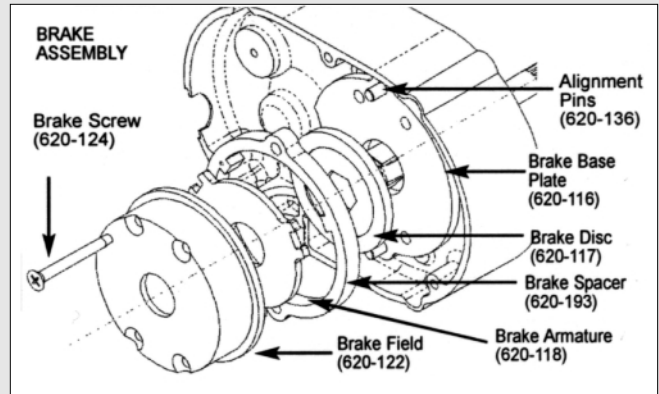

Figure 8B
1. Refer to Figure 8B and disassemble the brake. Depress and hold the field assembly (620-122) while removing the four brake screws (620-124). The field assembly is under spring pressure and will spring-out if not held. During disassembly, note there is a small leaf spring (620-121) on the brake driver (620-119) and this will spring-out when the brake disc (620-117) is removed. Examine the base plate (620-116), hex driver (620-119), brake disc (620-